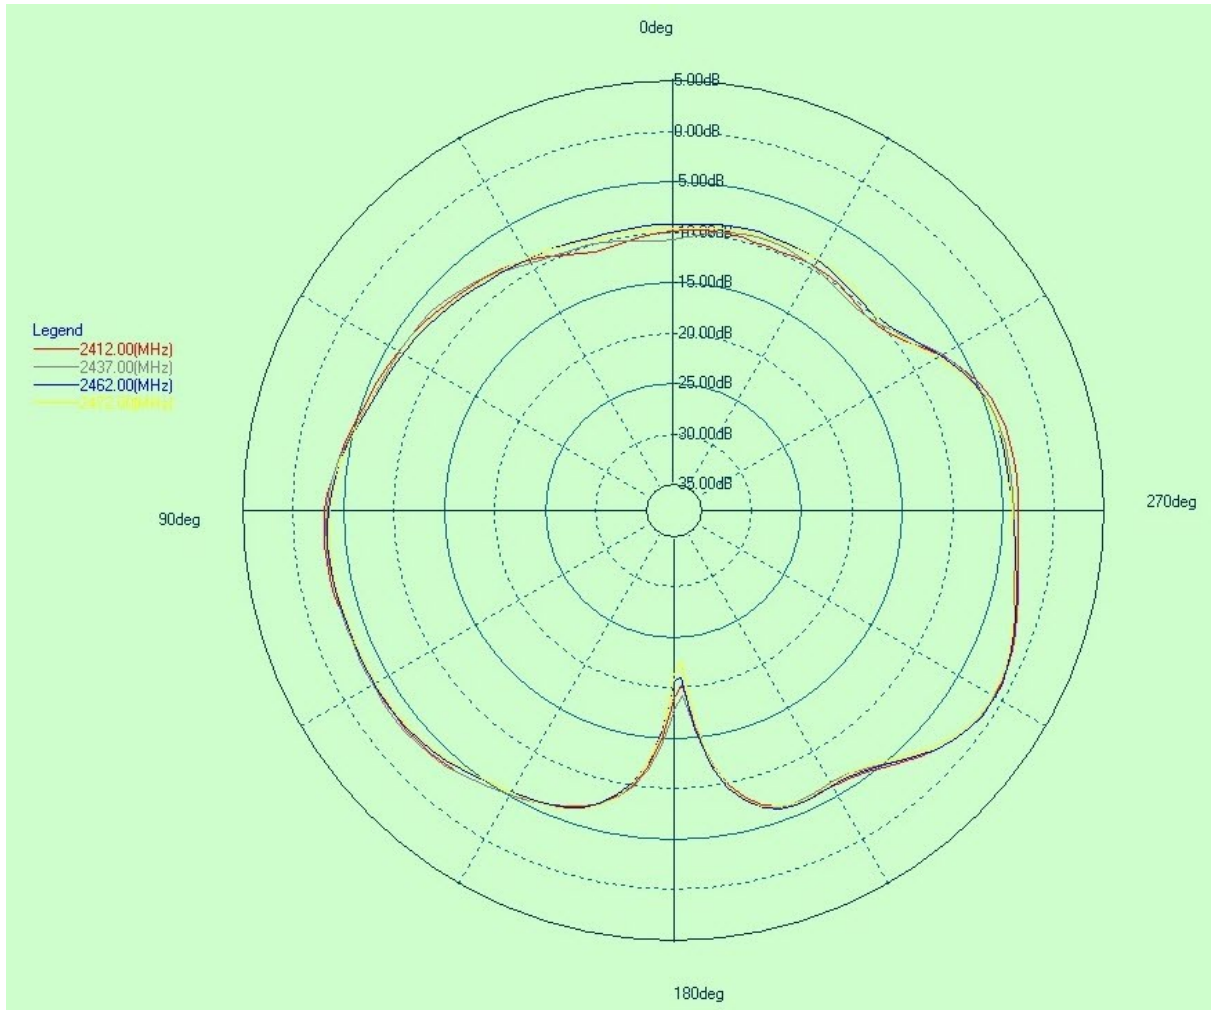

Figure 19. Antenna Radiation Pattern when Phi = 90 degree
- The module must be placed on host board, The printed antenna area must overlap with the carrier board. The portion of the module containing the antenna should not stick out over the edge of the host board. The antenna is designed to work properly when it is sitting directly on top of a 1.5mm thick printed circuit board. Figure 19 shows the best, poor and worst case module placements in host board.